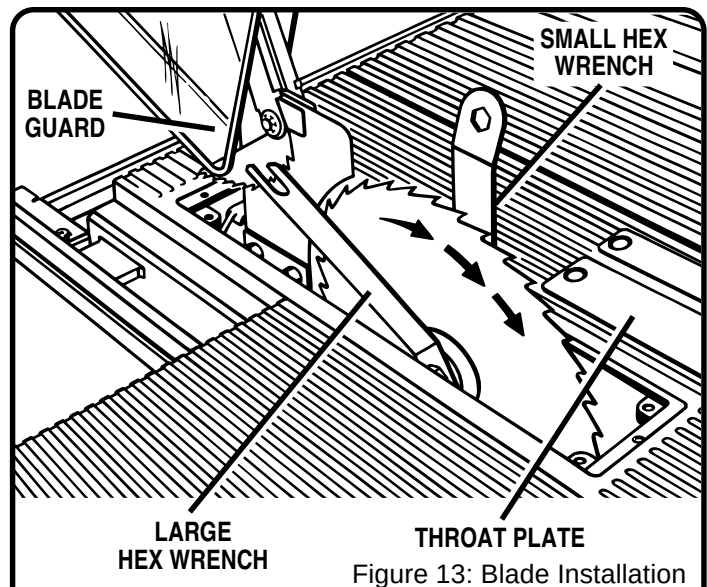

Figure 13: Blade Installation
1. To check the saw blade, first remove the three screws holding the throat plate in place. Remove the throat plate. *See Figure 13.*